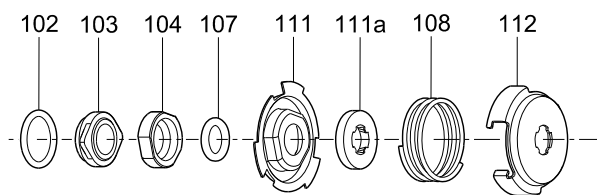

Fig. 3 Exploded view of shaft seal
9. Continue the dismantling until shaft seal (pos. 105).
10. Remove shaft seal (pos. 105). See fig. 3.